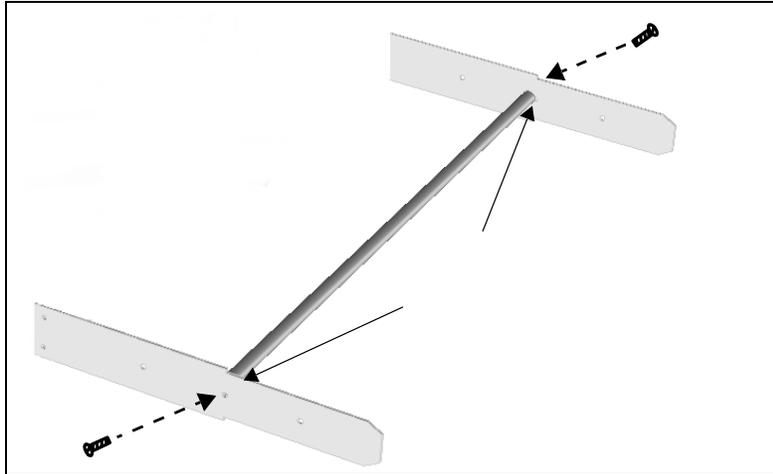

Figure 2-3 Installing a Cable Support Bar
- 2 Thread the cable support bar into each rear-support bracket, and then secure with the provided screws. See Figure 2-3.